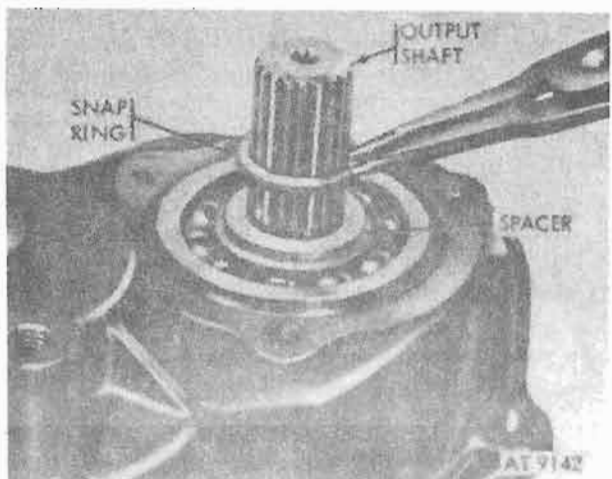

Figure 8-9. Transfer output shaft snapping and spacer.
j. Using snapping pliers, remove output shaft retaining snapping from output shaft (fig. 8-9) and remove selective-fit spacer.